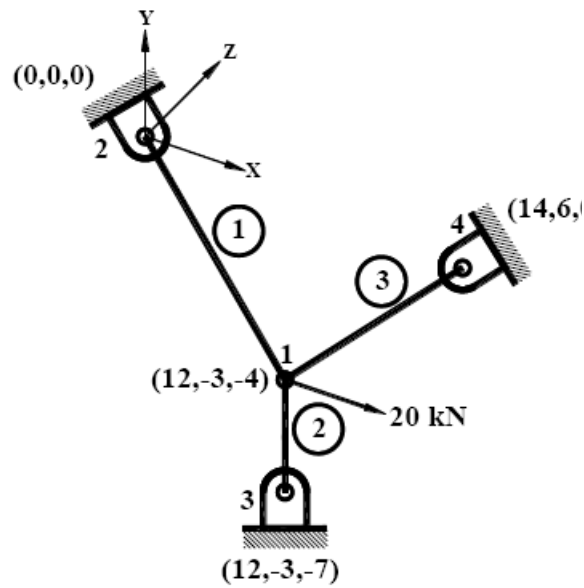

Figure P2.11
11. For the space truss shown in **Figure P2.11**, determine the displacement of node and stresses in each element. Let $E = 210$ GPa and $A = 10 \times 10^{-4} \text{ m}^2$ for all elements. A load of 20 kN is applied at node 1 in the global X direction.